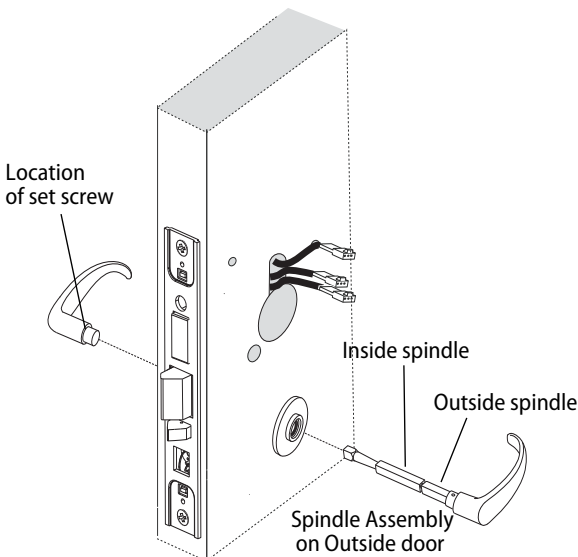

Figure 10 Installing the levers
- 1 Unscrew the inside spindle one full turn to allow the spindles to turn freely. See Figure 10.